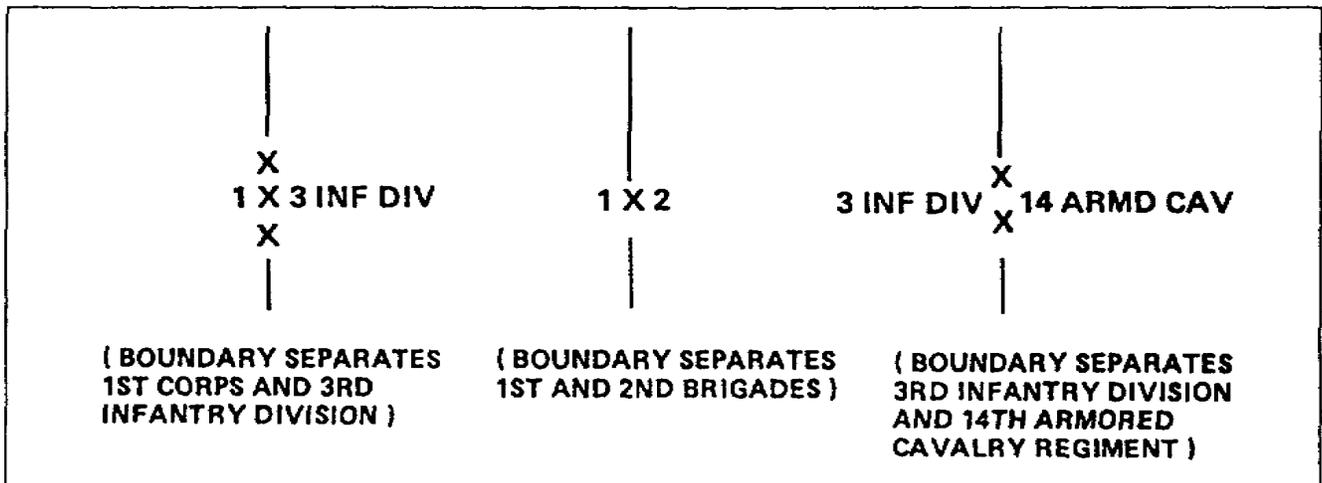

Figure 1-20. Lateral boundaries
a. Lateral Boundaries. You include the size of the largest unit, and designation of the highest unit and/or national designation with lateral boundaries. Figure 1-20 shows examples of lateral boundaries.